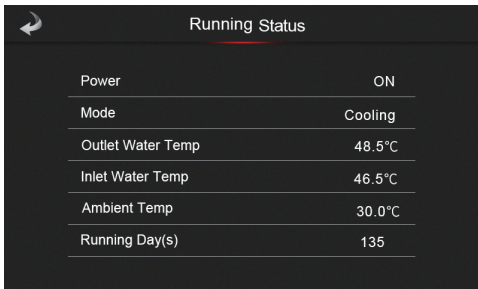

Fig.13-1 Running Status interface
In the Status interface, press Running Status button ④② to inquire the running status parameter (Fig.13-1).